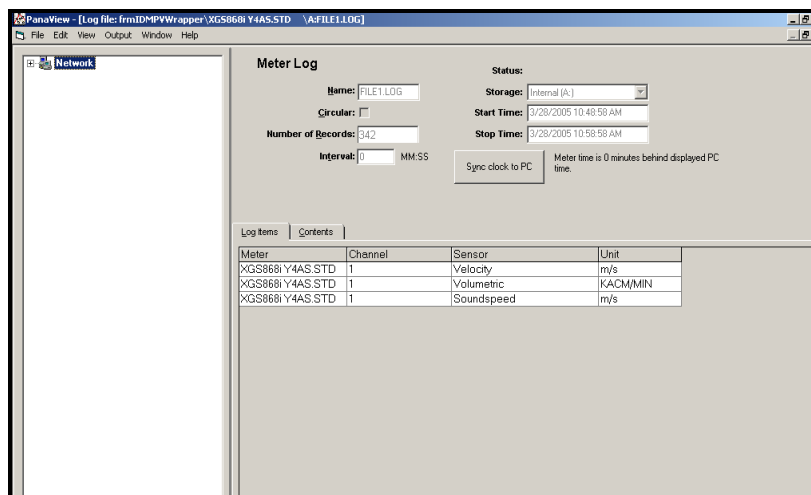

Figure 3-11: Data Window for an Individual Meter Log
2. Double-click on the desired log. A window opens for the individual log, as shown in Figure 3-11 below.
- Click on the *Log Items* tab (see Figure 3-11 above) for a list of the parameters specified for logging.